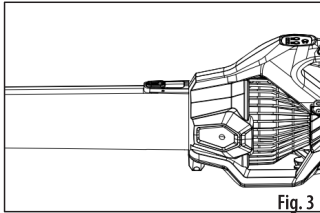

Fig. 3
3. Push the tube onto the blower housing until the latch snaps into place (Fig 3).